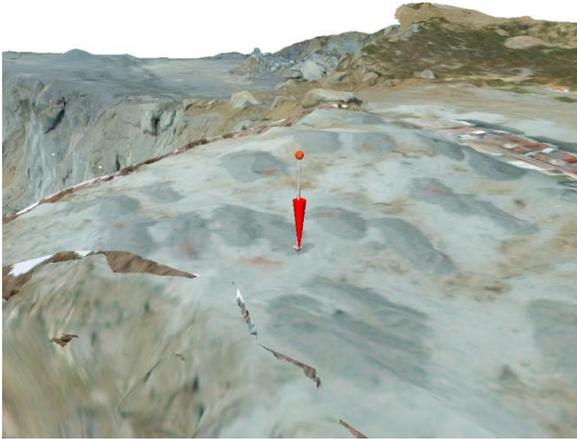

Figure 4: Left Delimiter of the Aerial and the Terrestrial 3D Model
11. Check if the toe positions of the *Delimiters* and *Floor Level Markers* in the *Aerial* and the *Terrestrial 3D Model* coincide (Figure 4).